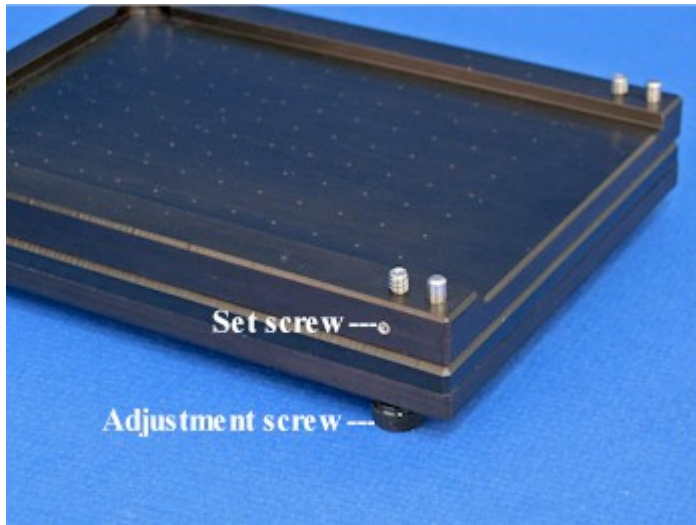

Figure 1
3. The 96 seed collector holes each have a stainless steel pin 0.229 mm diameter in the center of each hole. These pins are mounted on a spring-loaded plate and the distance the pins project into the hole can be raised and lowered with the four adjustment screws (see Figure 1).
4. The four adjustment screws are adjusted up and down by turning the plastic knobs on the bottom of the VP 725ZB-3. Once the proper height adjustment is reached they are locked in place using the set screws on the side. See Figure 1.